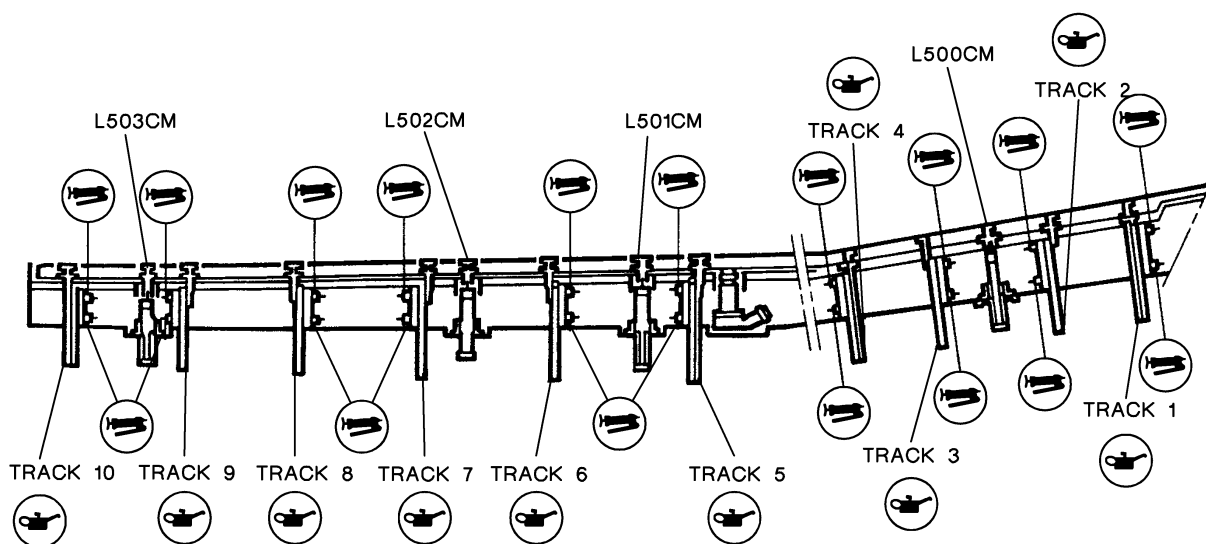
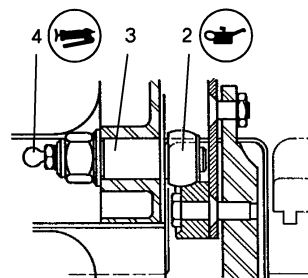

Figure 1: Lubrication of Slat Mechanism
Figure 4: Greasing/Lubrication of Outboard Slat Rollers
- B. Using a cloth moistened with white spirit P-D-680B, clean the slat tracks (from track 1 to track 10) (**fig. 1**).
Refer to **fig. 1**, **fig. 2**, **fig. 3** and **fig. 4**
Using a lint-free cloth moistened with **hydraulic fluid**, lubricate the sliding rods of slat actuators (**fig. 1**):
Using an oil can filled with lubricating oil, lubricate the slat tracks (from track 1 to track 10) (fig. 1).
- accessible track rollers (2) (fig. 3 and fig. 4, DETAIL J),
- anti-slope rollers (1) (fig. 3 and fig. 4, DETAIL H).
(2) Greasing of track roller pins
Using a grease gun filled with synthetic grease, grease track roller pins (3) via nipples (4) (fig. 3 and fig. 4, DETAIL J).